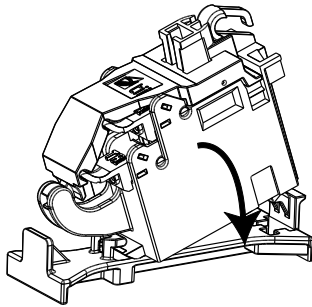

Figure 4
1. Snap the adapter onto the CBM module (See Figure 4).